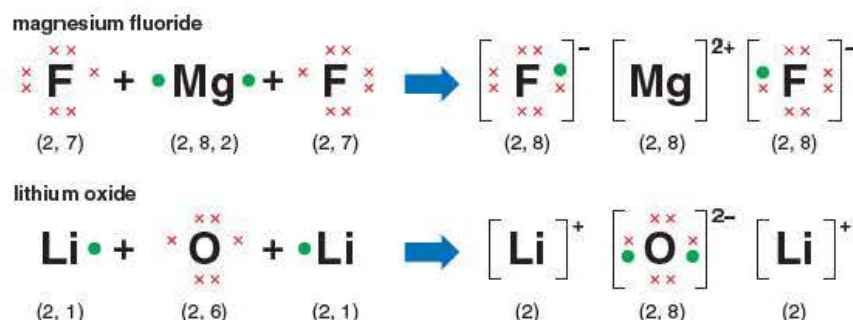

Figure 14.4 Electron transfers in the formation of magnesium fluoride and lithium oxide.
Figure 14.4 shows two more dot and cross diagrams of electron transfer and ionic bonding. Notice the following points in these dot and cross diagrams.
- Atoms sometimes form ions with electronic configuration like noble gases, e.g. helium (2), neon (2,8) and argon (2,8,8). This makes them stable.
- One magnesium atom has two electrons in its outer shell (Figure 14.4). It reacts with two fluorine atoms, each of which takes one electron. The Mg^{2+} ion and the two F^{-} ions all finish with an electronic configuration like neon.
- Two Li atoms react with one O atom to form lithium oxide (Figure 14.4). In this case, the two Li^{+} ions have an electronic configuration like helium and the O^{2-} ion has an electronic configuration like neon.
- 1 Look at Figure 14.4.
- 2 Draw a diagram similar to those in Figure 14.4 to show what happens when potassium reacts with